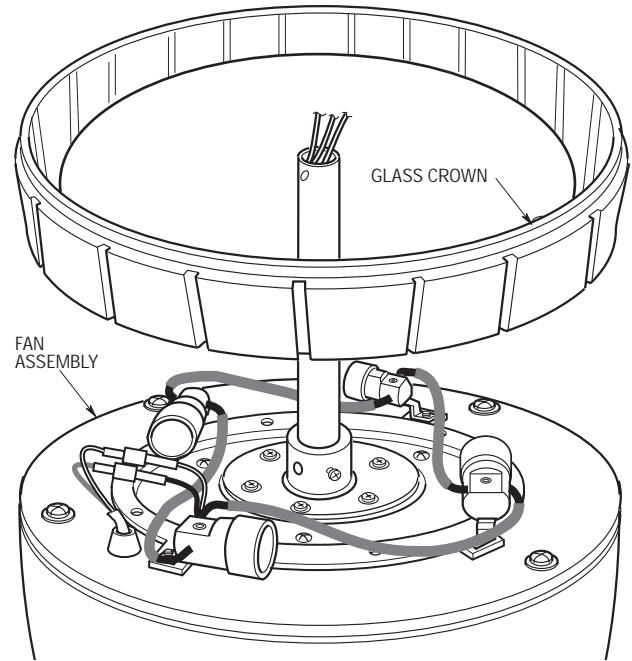

Figure 4
4. Set the glass crown onto the fan assembly (Figure 4).